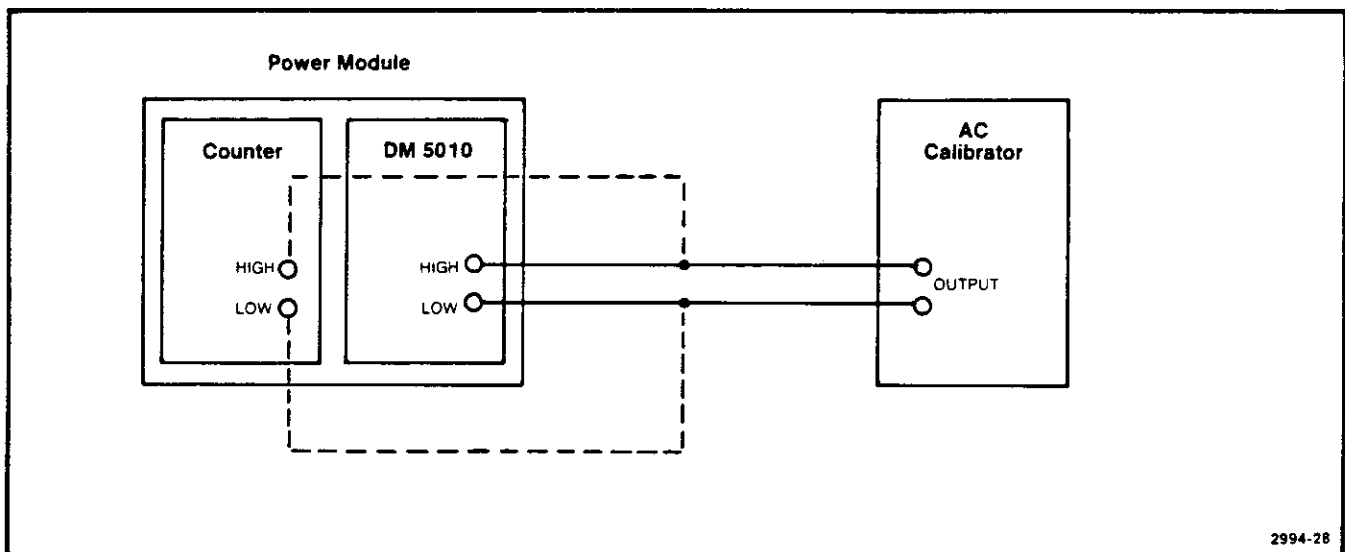

Fig. 5-2. Dc normal mode rejection setup.
b. Connect the counter, ac calibrator, and DM 5010 as shown in Fig. 5-2.